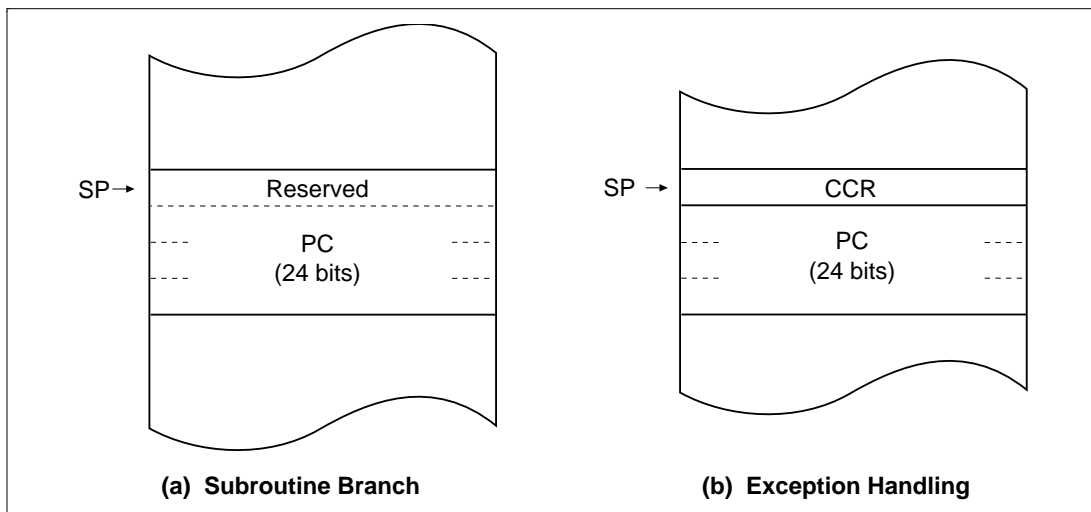

Figure 2-5 Stack Structure in Advanced Mode
Stack Structure: In advanced mode, when the program counter (PC) is pushed onto the stack in a subroutine call, and the PC and condition-code register (CCR) are pushed onto the stack in exception handling, they are stored as shown in figure 2-5. The extended control register (EXR) is not pushed onto the stack. For details, see section 4, Exception Handling.